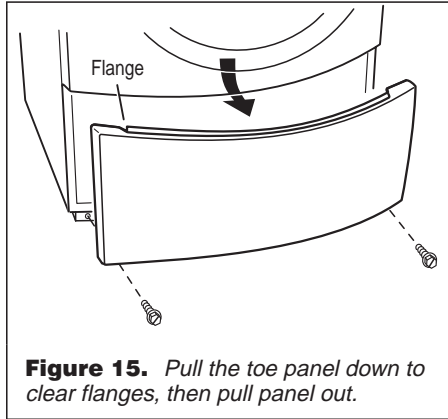

Figure 15. Pull the toe panel down to clear flanges, then pull panel out.
- If not, disconnect dryer from power. Access the moisture sensor wires by removing the toe panel (page 10, figure 15) and disconnecting the sensor wires from the harness (figure 11). Go to step 7.
2. Slide the toe panel down, then pull it out from the bottom. See figure 15.